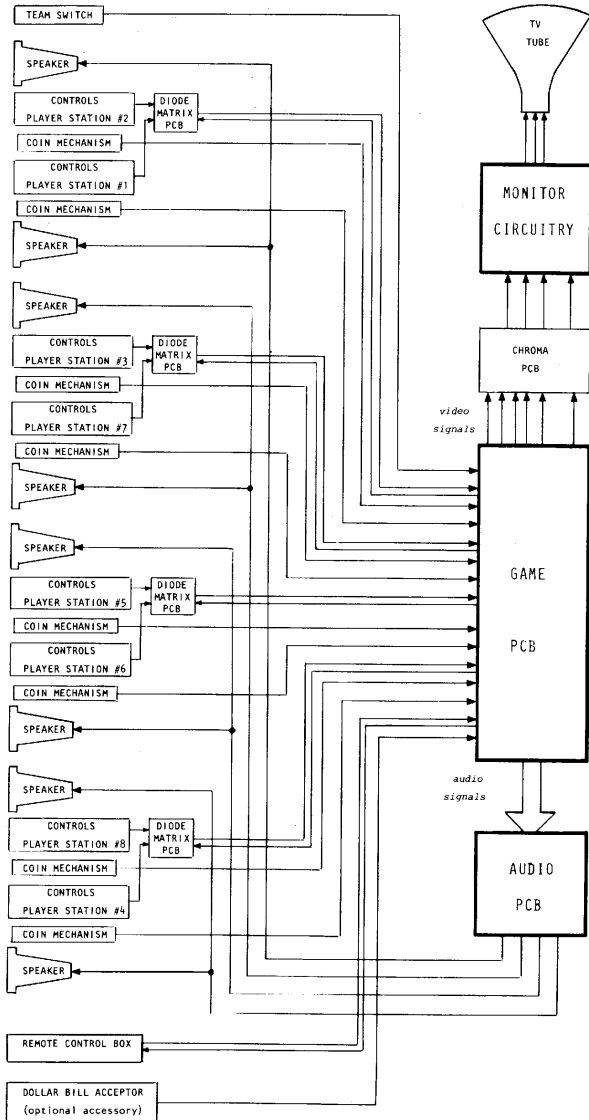

Fig. 3-1
The block diagram in Figure 3-1 shows the major functional parts of the TANK 8 game and how they are interconnected. Note that the game printed circuit board (PCB) sends video signals to the TV monitor and separate audio signals to the sound PCB. Also note the four diode matrix PCB's. Each diode matrix performs a "multiplexing" function by combining signals produced at two player stations. This design feature significantly reduces the number of wires needed in the harness leading to the game PCB.
**3.2.2 TV MONITOR:** The game's TV monitor is based upon a General Electric Model 25 MB color monitor. The Model 25 MB tuner, IF and audio modules have been removed, and the chroma module has been replaced by an Atari unit. The monitor is self-contained in its own chassis and is used as a video amplifier. Because the signals sent to the monitor by the game circuitry are not equivalent to the signals derived from commercial color TV broadcasts, the picture appearing on the screen is not like that of a home TV set and the monitor itself does not produce any sound. The game's sounds are produced by speakers that are driven directly by the game circuitry; the "audio" connections shown in Figure 3-1 point this out.